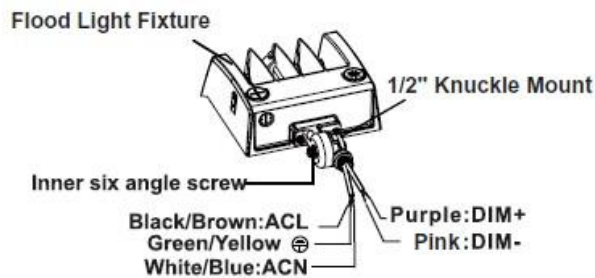
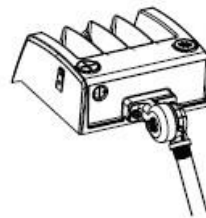

Figure 1.1
Figure 1.2
2. Make the wiring connections to the pole according to the wiring diagram, paying close attention to the positive, negative, and ground wires (Figure 1.1 & Wiring Diagram section), then tuck all the wires into the pole (Figure 1.2).